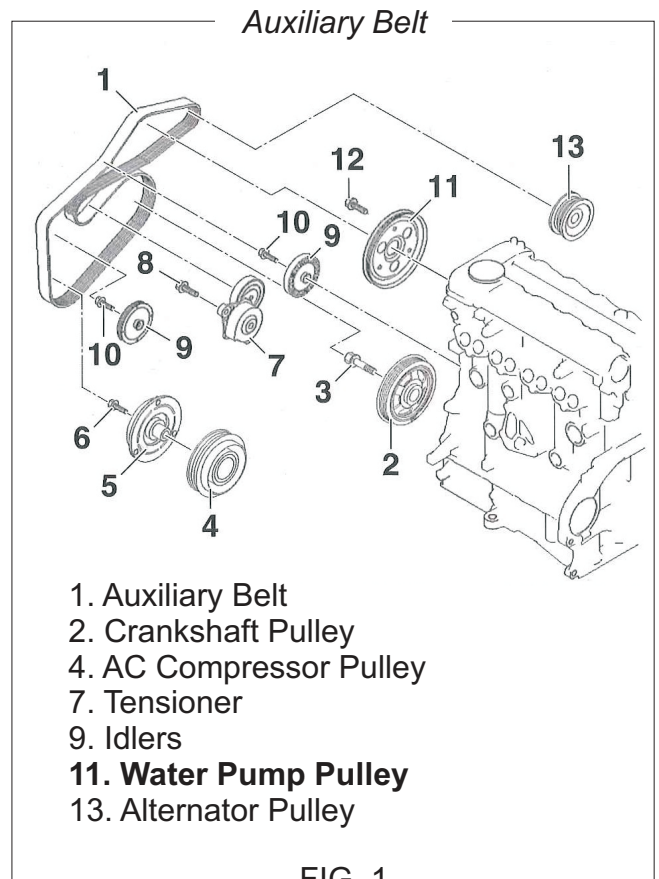

FIG. 1
- 2 Turn the tensioner (7) [FIG. 1] to remove the auxiliary belt (1) [FIG. 1].